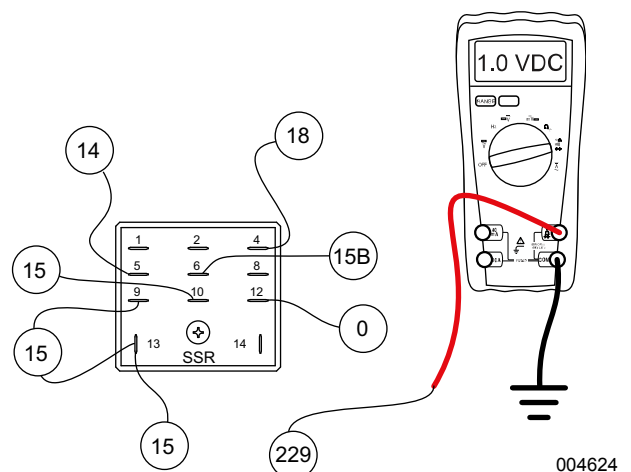

Figure 4-46. Testing Wire 229 to Ground
5. See **Figure 4-46**. Set the start-run-stop switch (SW1) to START. The meter should read approximately 1.0 VDC.